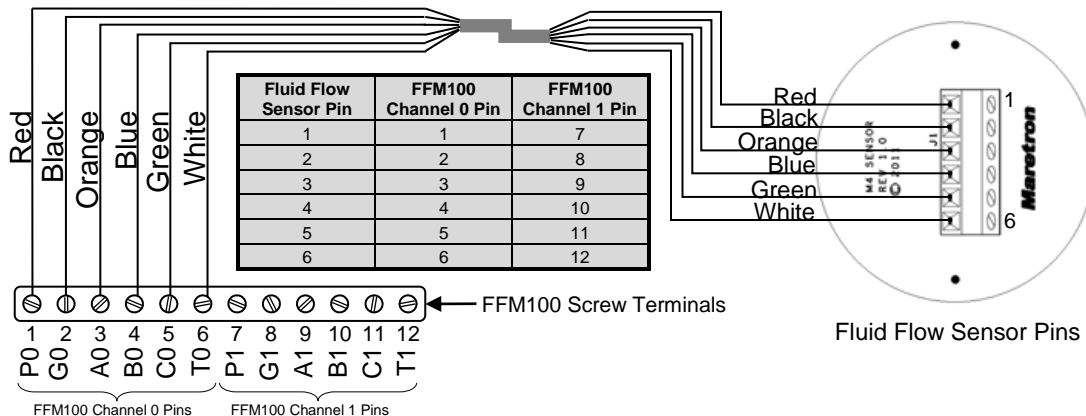

Figure 2 – Fuel Flow Sensor Connection Diagram
- Connect the other end of the cable to the corresponding terminals on the appropriate free pressure monitoring channel on an FFM100. Please refer to Figure 2 below for details (the wire colors in the figure are those of the supplied cable).